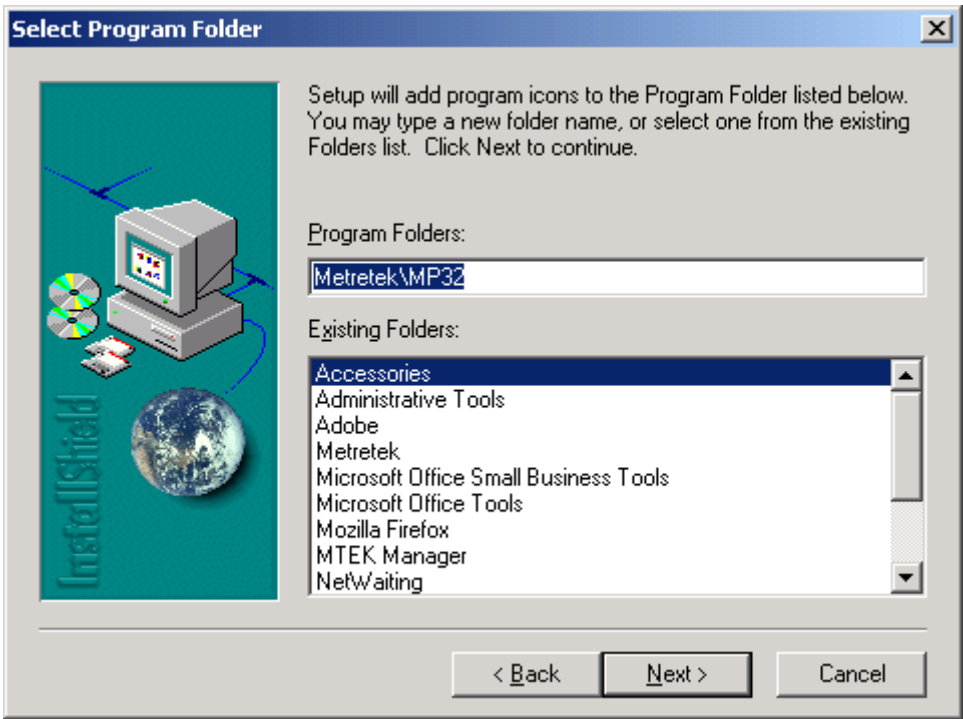

Figure 9 – MP32 Installation - Select Program Folder
5. Figure 9. Select Program Folder – this is the folder you will select from the Start Menu. If you wish to change the location of the InvisiConnect™ icons on the start menu, make the appropriate changes here. Click <Next> to continue.